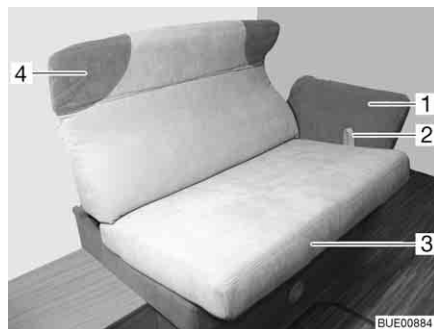

Fig. 98 Adjusting the divan
- Pull up the loop (Fig. 98,2) and carefully pull the seat (Fig. 98,3) along the rails as far as it will go towards the middle.
- Hold the neck cushion (Fig. 98,4) in both hands and carefully move it up or down to the right position.
- Hold the armrest (Fig. 98,1) in both hands and carefully move it up or down to the right position.